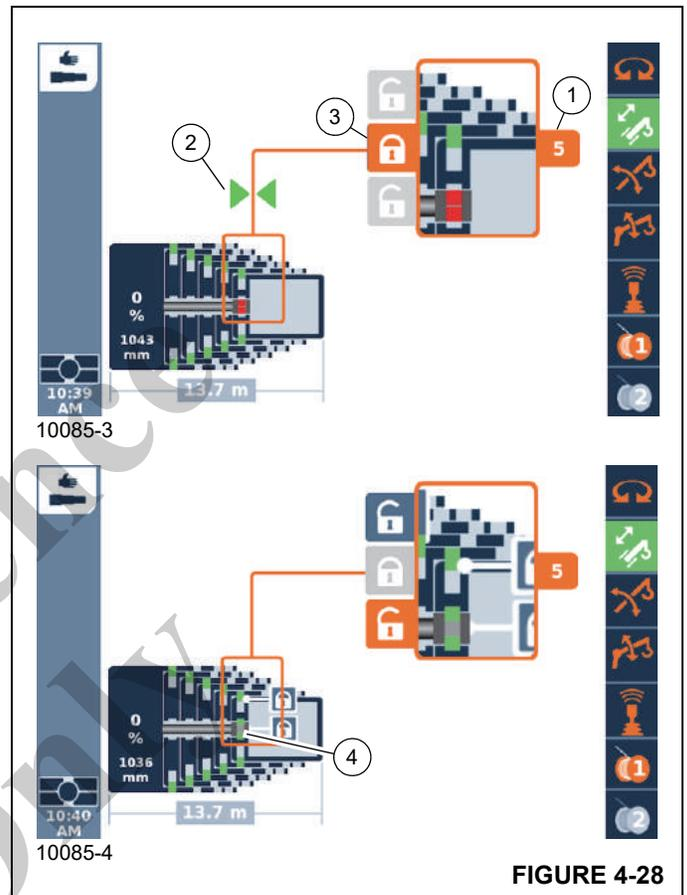

FIGURE 4-28
1. Move the telescoping cylinder to the desired locking point, e.g. to telescopic section 5 (Figure 4-28).
- shows the desired telescopic section (1, Figure 4-28)